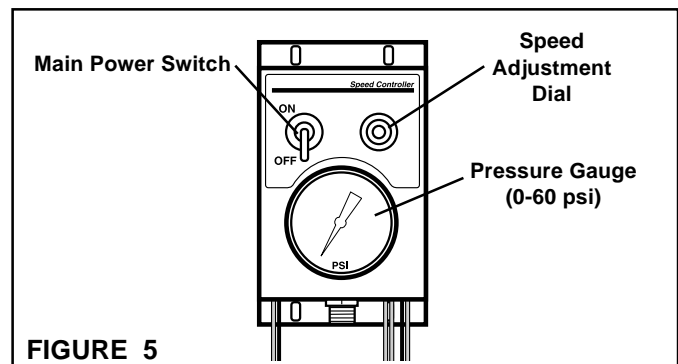

FIGURE 5
1. Rotate the Speed Adjustment Dial fully counter clockwise (See Figure 5).
2. Set the Main Power Switch to the **ON** position (See Figure 5).
3. Slowly rotate the Speed Adjustment Dial clockwise until the desired pressure is indicated on the Pressure Gauge (See Figure 5).